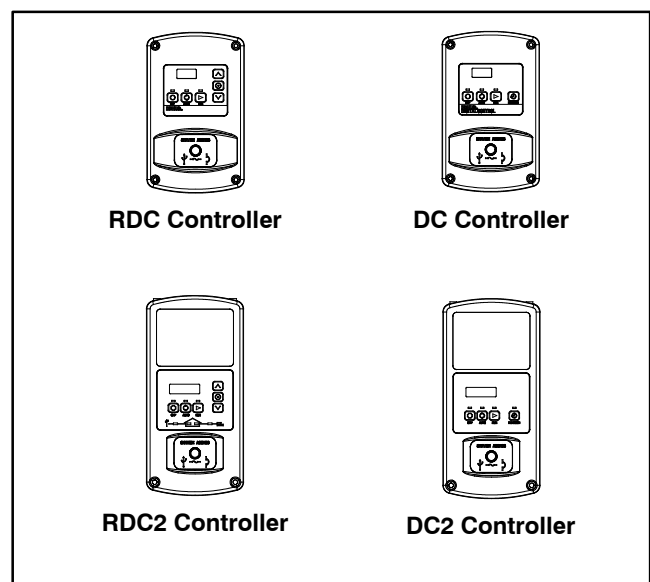

Figure 3 Controller Identification
3. Determine whether your generator uses an RDC/DC or RDC2/DC2 controller. See Figure 3 for controller identification. The DC controller uses RDC firmware; the DC2 controller uses RDC2 firmware.